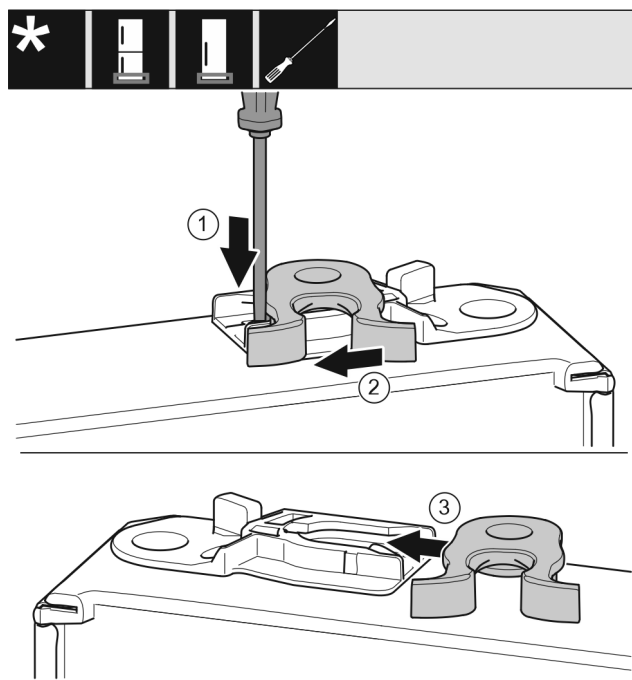

Fig. 13
- Push the lug downwards with a slotted screwdriver. Fig. 13 (1)
- Pull the door latch out of the guide. Fig. 13 (2)
- Push the door latch into the guide on the other side. Fig. 13 (3)